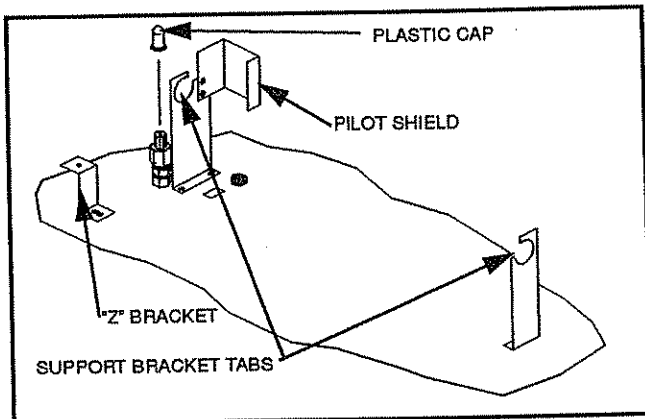

Fig. 38. Location of pilot shield, support bracket tabs and "Z" bracket.
1). If you have a burner, grate and log assembly installed, remove the logs and lava rock then the burner and grate by bending left and right burner support bracket tabs and removing screw of burner support "Z" bracket. (See Fig. 38.)
2). If you have a pilot shield around the pilot, remove and discard. (See Fig. 38.)
3). Loosen the burner support "Z" bracket screw, rotate bracket 180° and tighten screw. (See Figs. 38 & 39.)